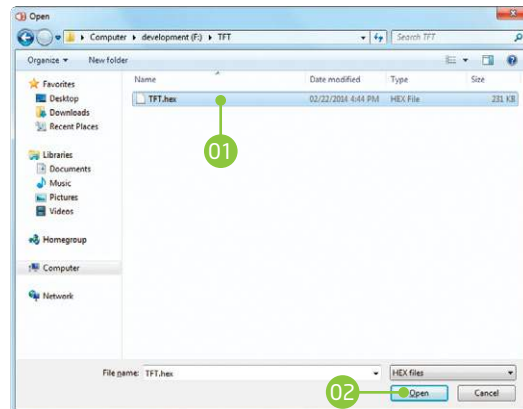

Figure 3-4: Selecting HEX
- 01 Click the **Browse for HEX** button and from a pop-up window (Figure 3.4) choose the .HEX file you wish to upload to your MCU's memory.